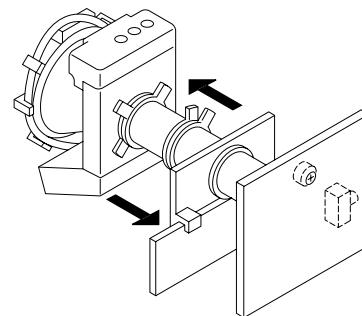

Fig. 3-2
- Move the deflection yoke forward and adjust so that the entire screen is green. (See Figure 3-2.)